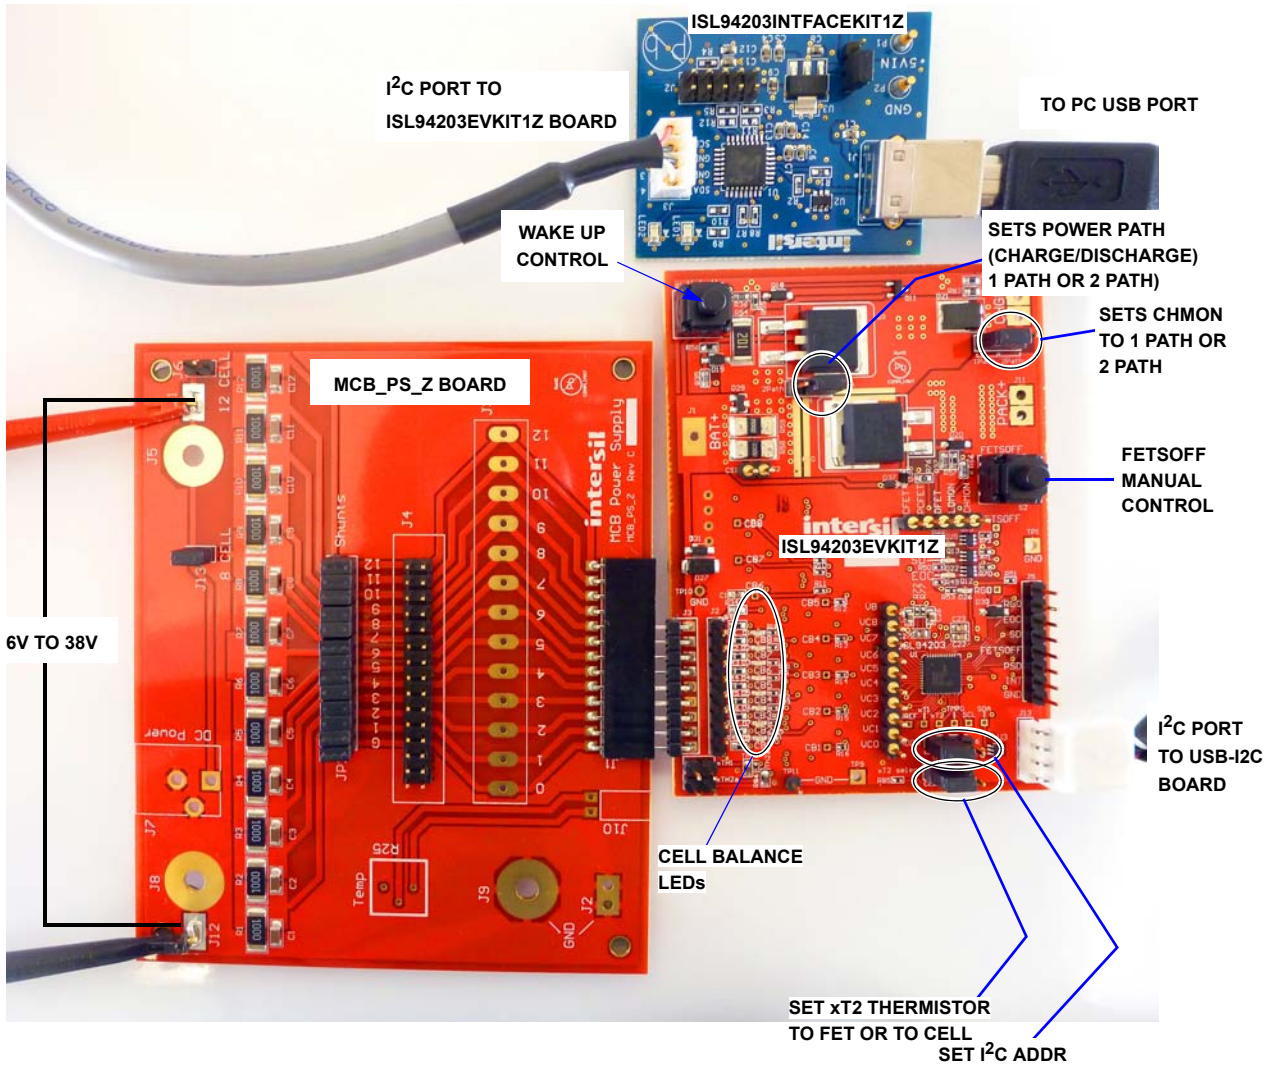

FIGURE 2. ISL94203EVKIT1Z BOARD SETUP
Step 5: Connect the ISL94203 board directly to the MCB_PS_Z board at connector J1. Make sure the board is connected on the ground side of J1 (see Figure 2).